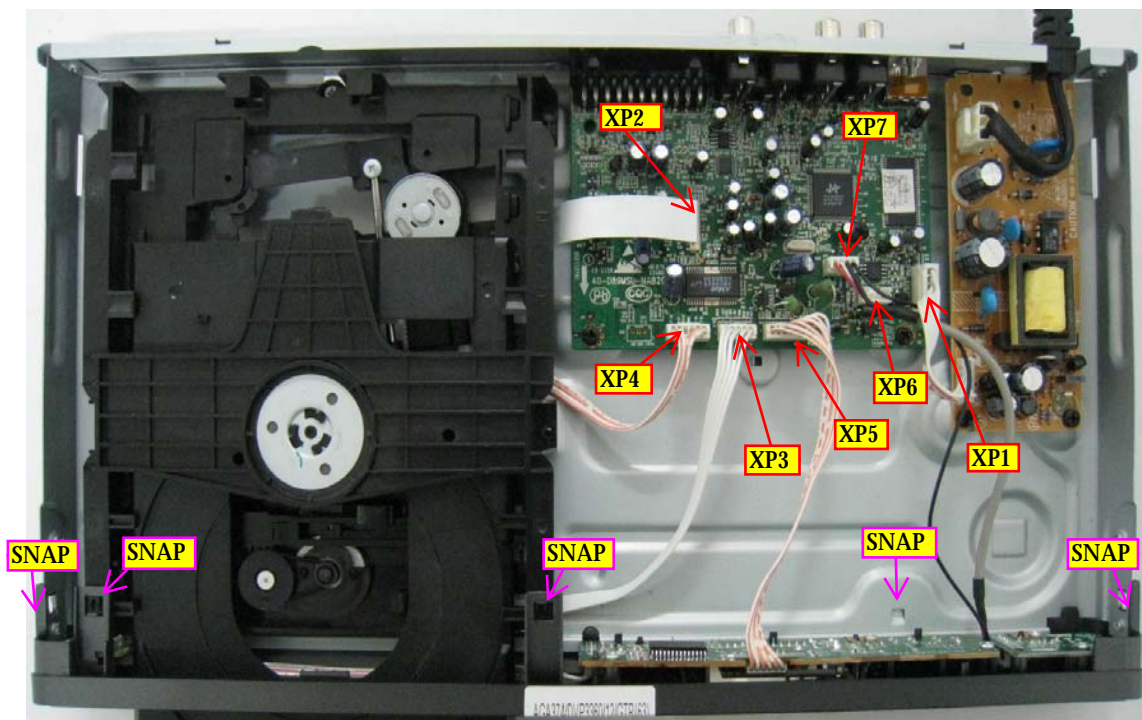
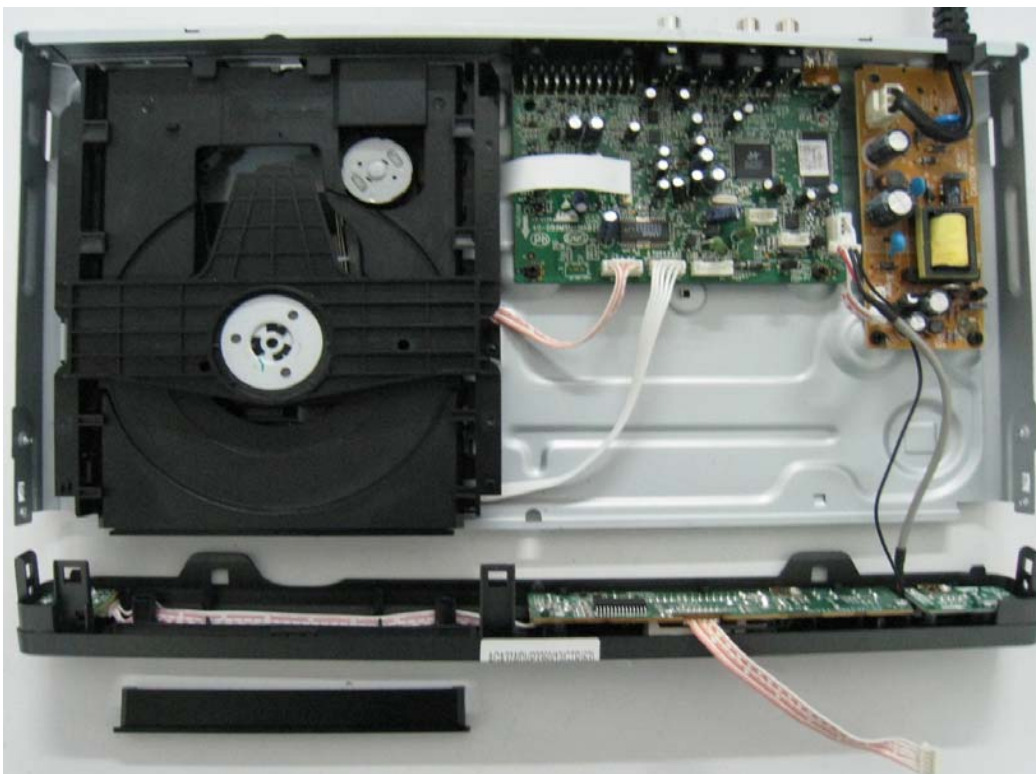

Figure 4
Figure 6
**Step4:** Dismantling Front Panel, disconnect the connectors (XP5, XP6, XP7), need release 4 snaps of Front Panel and 2 snaps of bottom cabinet, then gently pull the Panel out from the set. (Figure 4 - Figure 6)